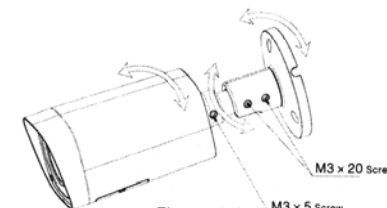

Figure 2-2
Step 6. Using the included hex wrenches, loosen the 3 hex screws shown in figure 2-2, so the camera can be adjusted on all 3 axes. Aim the camera and retighten all of the hex adjustment screws.